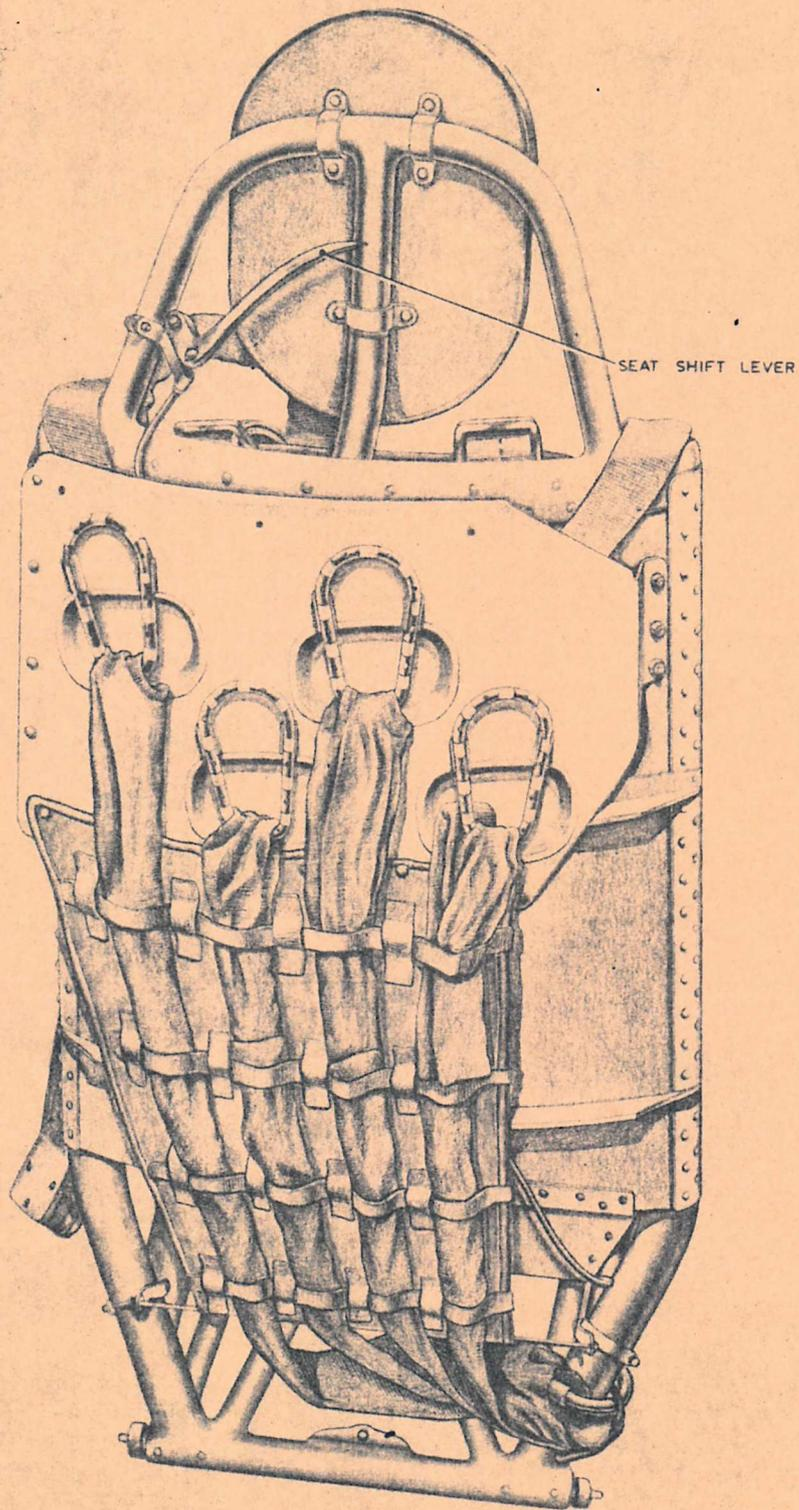

Fig. 9. Static line stowage on port side seat
20. Static lines for use in conjunction with the parachute assembly Back Type Mk. 20 are stowed on the back of the port side crew seat (*fig. 9*).